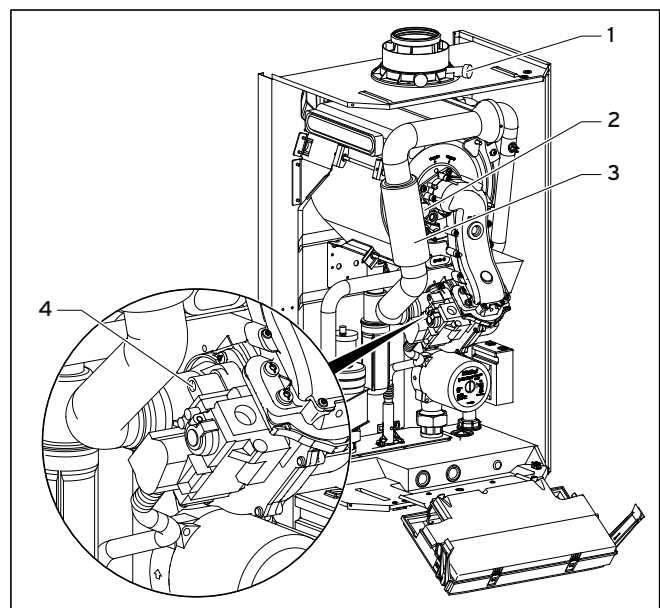

Fig. 8.1 Measuring the CO2 concentration, specifying the air ratio (gas setting)
- unfasten the screw (Fig. 8.1, 2) and
- fold the air intake pipe (Fig. 8.1, 3) forwards through 90°. Do not remove the air intake pipe.
- Specify the required flue gas value if necessary (value with front casing of boiler removed, see Table 8.1) by turning the screw of the main throttle (Fig. 8.1, 4)